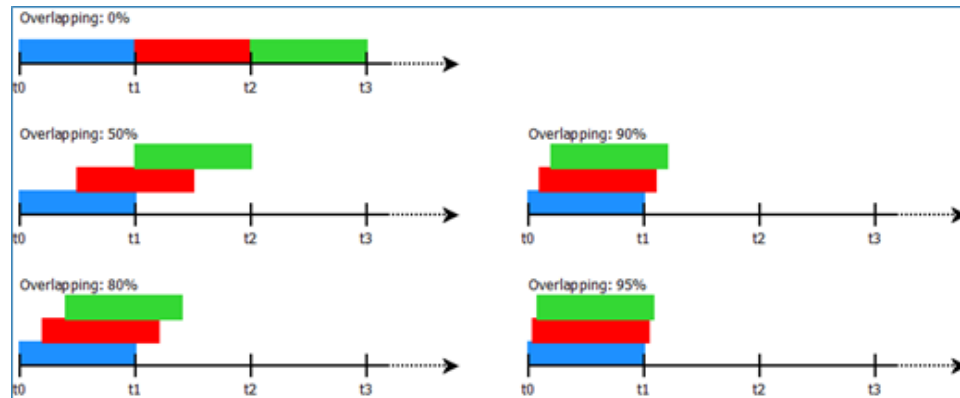

Fig. 7.85: Overlapping mechanism for the statistic calculations
- Overlap – define window overlap; see Fig. 7.85.